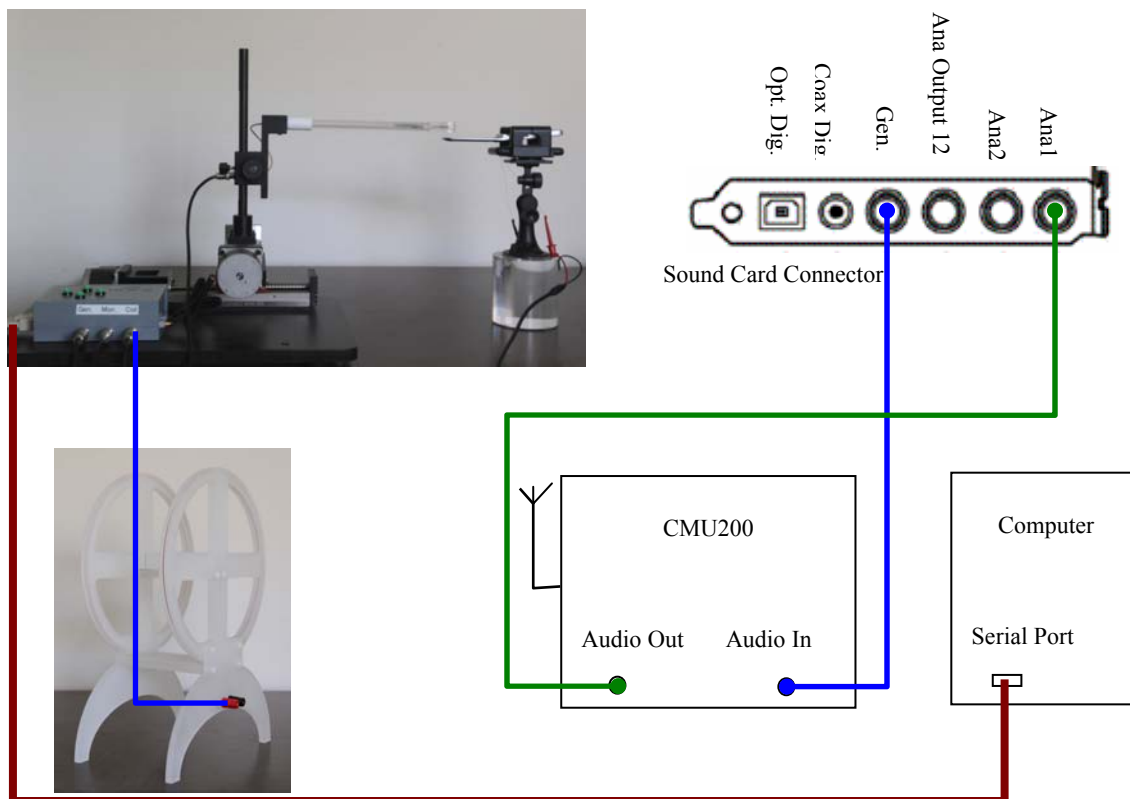

Fig. 2-17 Calibrate Call Box Encoder Sensitivity.
- Connect the Cables as shown in Fig. 2-17. Use Ana2 only. **DO NOT use Ana1.**